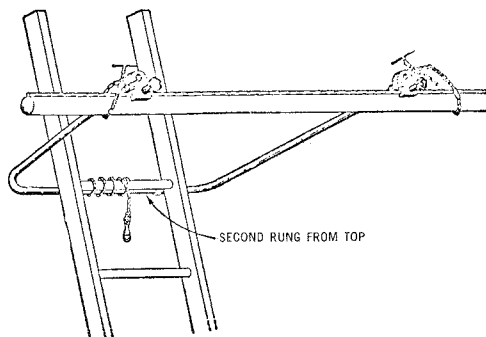

Fig. 21 — C Ladder Support in Use
6.22 Descend and pull the foot of the ladder backward until the top of the ladder falls below the strand and cable. This may also be accomplished by lowering the ladder with the ladder rope. Push the foot of the ladder forward and adjust its length or raise the ladder with the ladder rope until the ladder assumes the position shown in Fig. 21 with the right side rail placed in the fitting on the support.
6.23 Climb the ladder, detach the rope from the fifth rung, and use it to tie the ladder support member to the second rung from the top, as shown in Fig. 21.